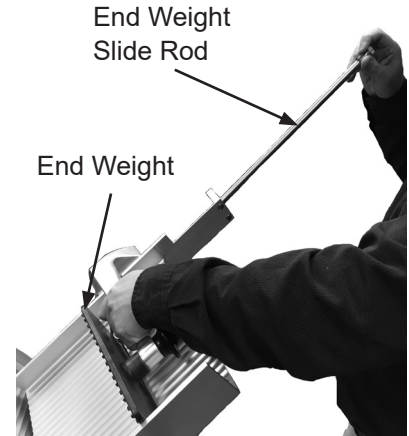

Figure 6-2.
4. Reinstall end weight. Align end weight with food chute and insert end weight slide rod through food chute and end weight (Figure 6-2).